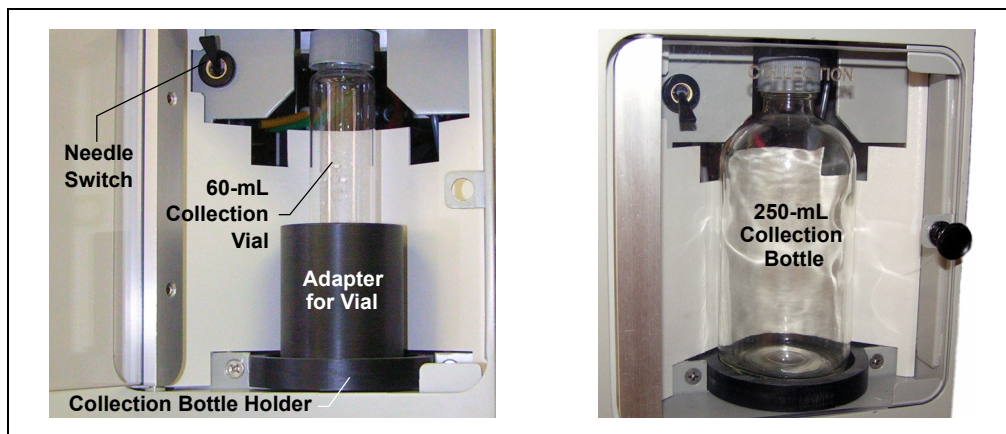

Figure 3-10. Installing the Collection Vessel
1. Open the collection vessel compartment door and toggle the needle switch to the **UP** position (see Figure 3-10).
2. If you are using a 60-mL collection vial, place the vial into the adapter (P/N 066392) and then place the adapter on the collection bottle holder (see Figure 3-10). If you are using a 250-mL collection bottle, place the bottle directly on the collection bottle holder.